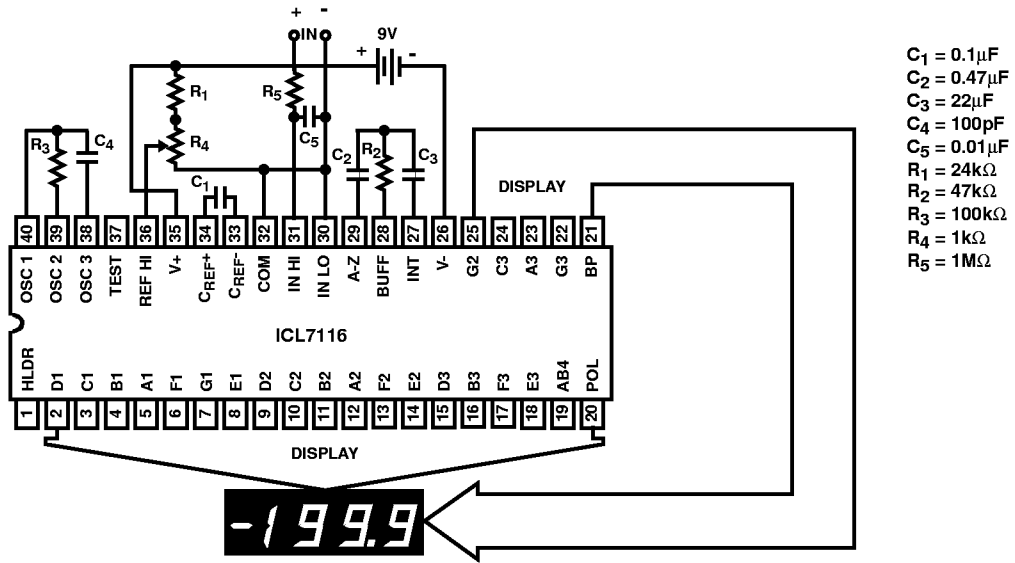
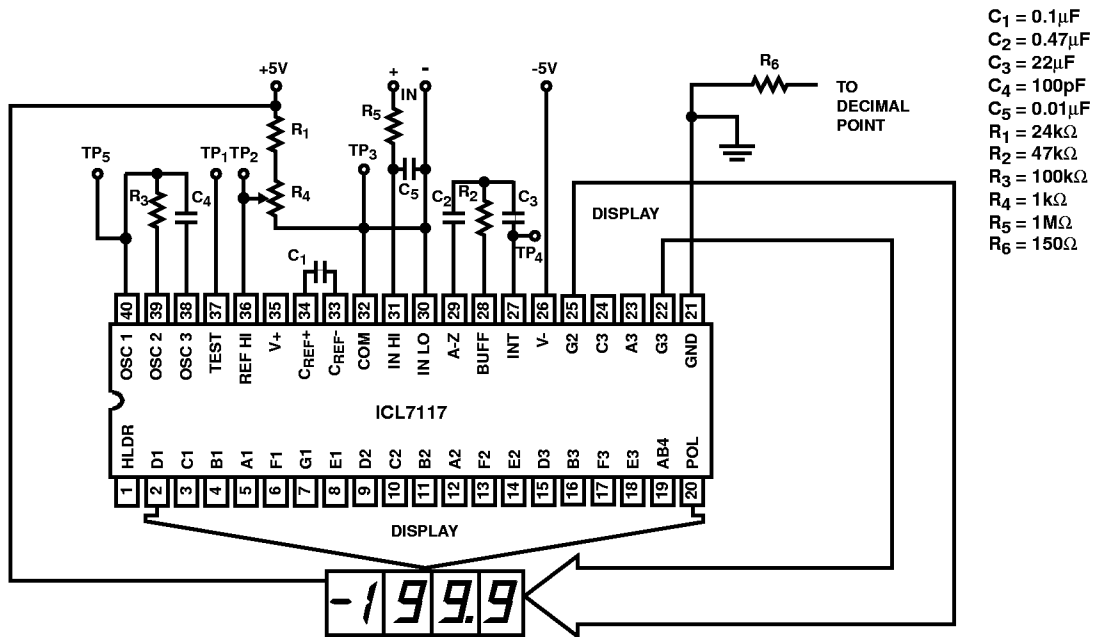

FIGURE 1. ICL7116 TEST CIRCUIT AND TYPICAL APPLICATION WITH LCD DISPLAY COMPONENTS SELECTED FOR 200mV FULL SCALE
FIGURE 2. ICL7117 TEST CIRCUIT AND TYPICAL APPLICATION WITH LED DISPLAY COMPONENTS SELECTED FOR 200mV FULL SCALE
- Unless otherwise noted, specifications apply to both the ICL7116 and ICL7117. ICL7116 is tested in the circuit of Figure 1. ICL7117 is tested in the circuit of Figure 2.